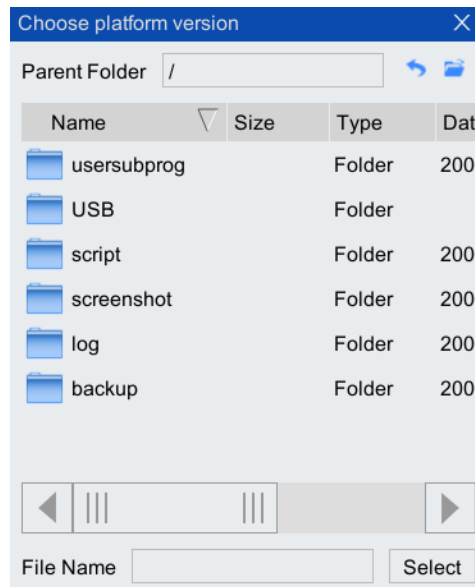

Figure 8-53 "Select platform version" list box
Step1.On the main interface of the teach pendant, click "System > System and Update > Choose Platform Version" option, the "Choose Platform Version" list box pops up, as shown in Figure 8-53.